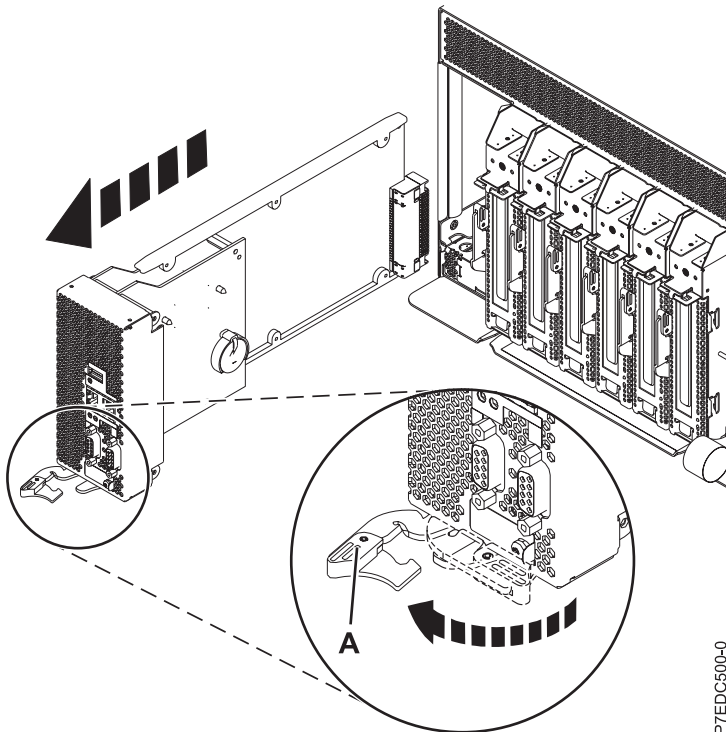

Figure 1. Removing the service processor card
8. Rotate the locking lever (A) in the direction that is shown in Figure 1 to unseat the service processor card.